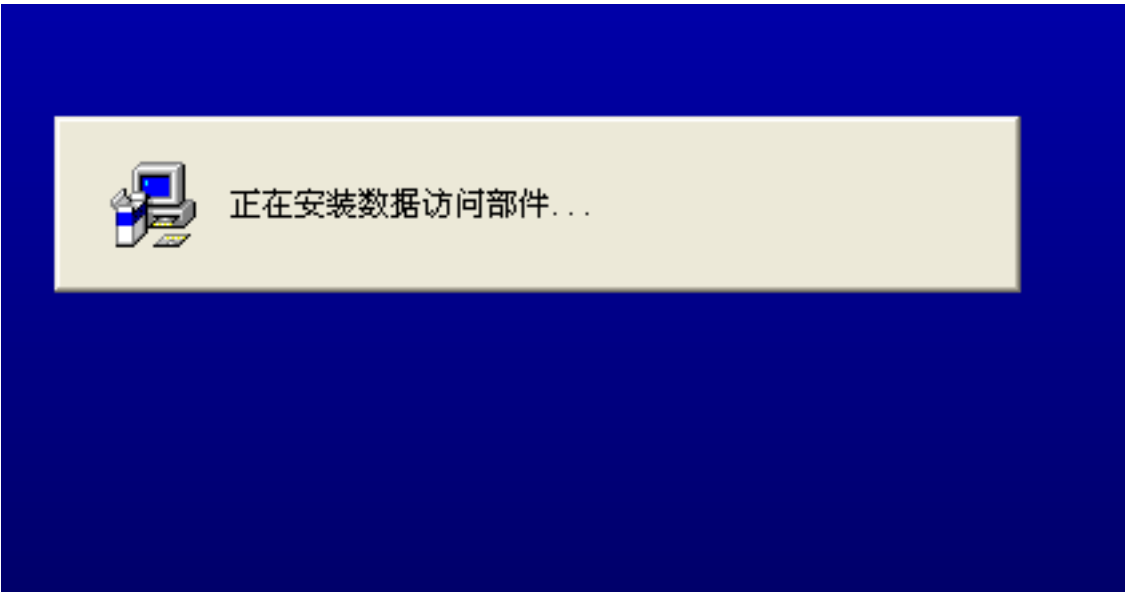

Figure 5
5. Enter interface as figure 5, wait for some time: